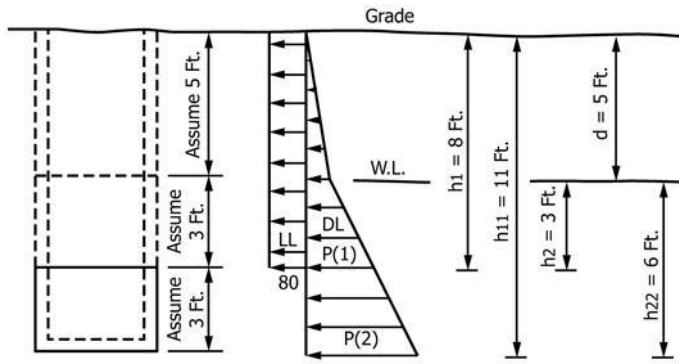

FIG. X2.2 Load Diagram
X2.2.2 Since the catch basin is in a highway, a live load (LL) from truck traffic must be considered. Refer to Fig. X2.2 for load diagram.
X2.2.3 From Fig. X2.2: